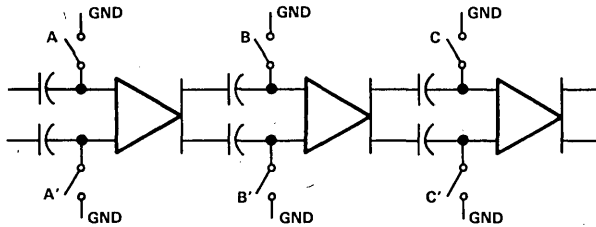

FIGURE 1
1. The IN + and IN - inputs are internally shorted together in order that the comparator input is zero. A course comparator offset calibration is performed by storing the offset voltages of the interconnecting comparator stages on the coupling capacitors, which connect the interconnecting stages. Refer to Figure 1. The storage of offset voltages is accomplished by closing all switches and then opening switches A and A', then switches B and B', and then C and C'. This process continues until all interconnecting stages of the comparator are calibrated. After this action, some of the comparator offset still remains uncalibrated.